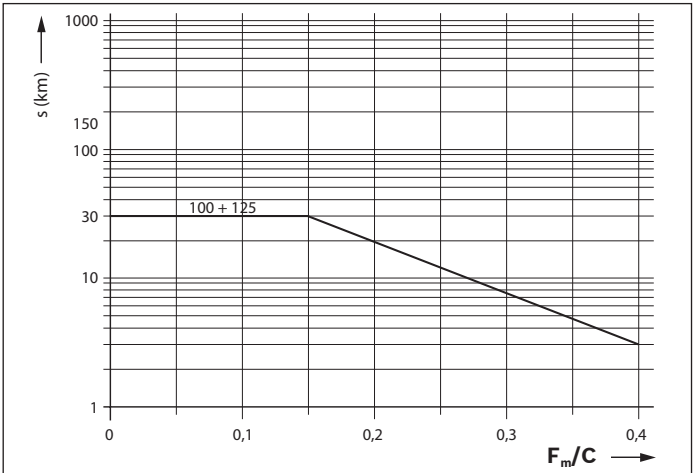

Fig. 8
- Once the relubrication interval according to figure 8 has been reached, relubricate the amount stated in table 10.
- Once the relubrication interval according to figure 8 has been reached, relubricate the amount stated in table 10 for each lube connection.